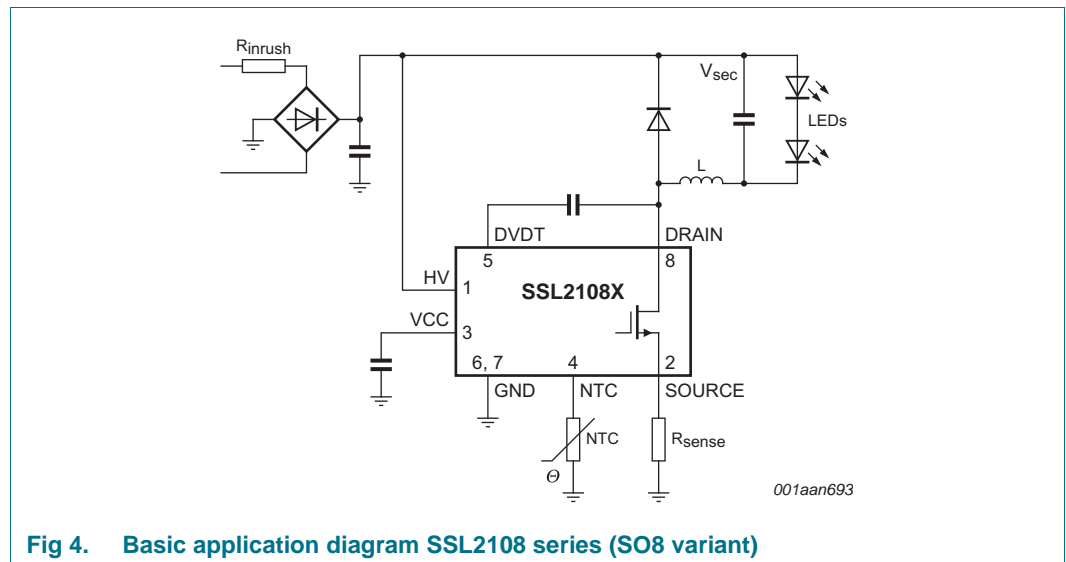
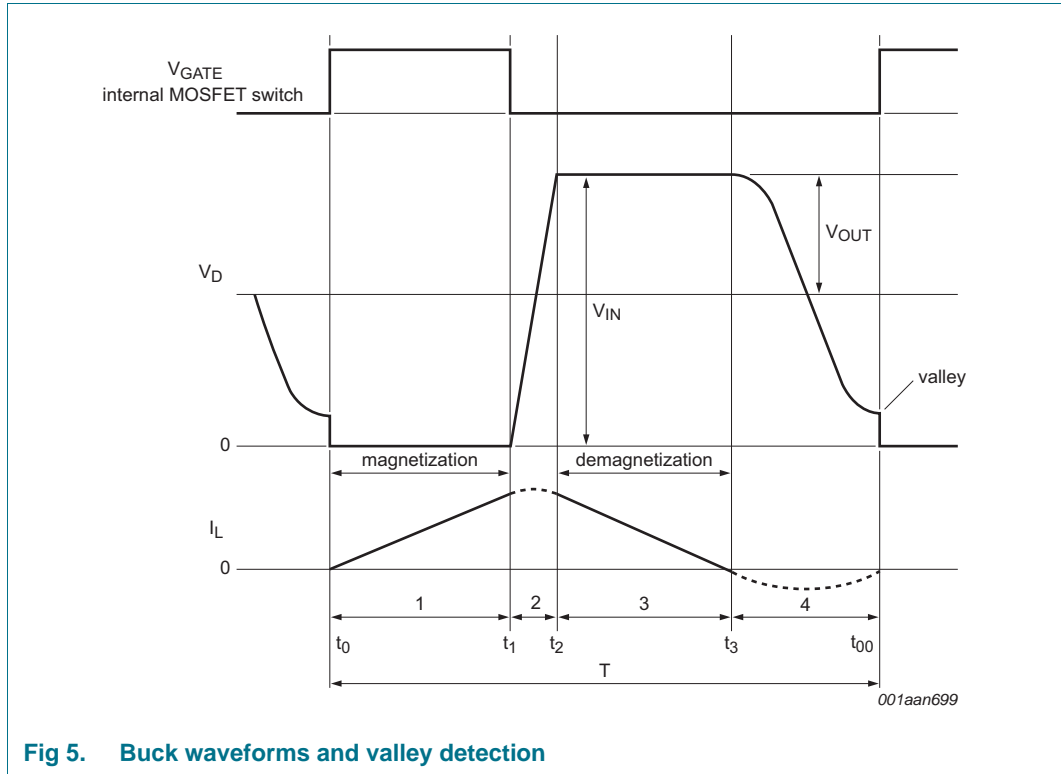

Fig 4. Basic application diagram SSL2108 series (SO8 variant)
Fig 5. Buck waveforms and valley detection
- Low component count (see Figure 4) LED driver solution:
The converter in the SSL2108 series is a Boundary Conduction Mode (BCM), peak current controlled system. For the basic application diagram see Figure 4, for the waveforms see Figure 5. This converter type operates at the boundary between continuous and discontinuous mode. Energy is stored in inductor L each period that the switch is on. The inductor current  $I_L$  is zero when the internal MOSFET switch is switched on. Thereafter, the amplitude of the current build-up in L is proportional to  $V_{IN} - V_{OUT}$  and the time that the internal MOSFET switch is on. When the internal MOSFET switch is switched off, the current continues to flow through the freewheel diode and the output capacitor. The current then falls at a rate proportional to the value of  $V_{OUT}$ . The LED current  $I_{LED}$  is almost equal to half the peak switch current. A new cycle is started, as soon as the inductor current  $I_L$  is zero.
A new cycle is started when the primary switch is switched on (see Figure 5). Following time  $t_1$ , when the peak current is detected on the SOURCE pin, the switch is turned off and the secondary stroke starts (3). When the secondary stroke is complete and the coil current at  $t_3$  equals zero, the drain voltage starts to oscillate around the  $V_{IN} - V_{OUT}$  level. The amplitude equals  $V_{OUT}$ . A special feature, called valley detection is an integrated part of the SSL2108 series circuitry. Dedicated built-in circuitry connected to the DRAIN pin, senses when the voltage on the drain of the switch has reached its lowest value. The next cycle is then started and as a result the capacitive switching losses are reduced.